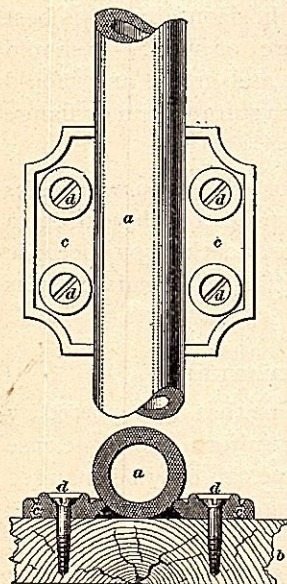

FIG. 31
**45.** Lead pipes 2 inches in diameter and less, which run against walls, etc., are usually supported by means of flanges, or **pipe tacks**, which are soldered on to the pipe at convenient intervals, and are fastened to the walls with common wood screws, as illustrated in Fig. 31, which shows a  $\frac{3}{4}$ -inch lead pipe *a* secured to a wall or pipe board *b* by molded pipe tacks *c, c* and 1-inch wood screws *d, d*, etc.